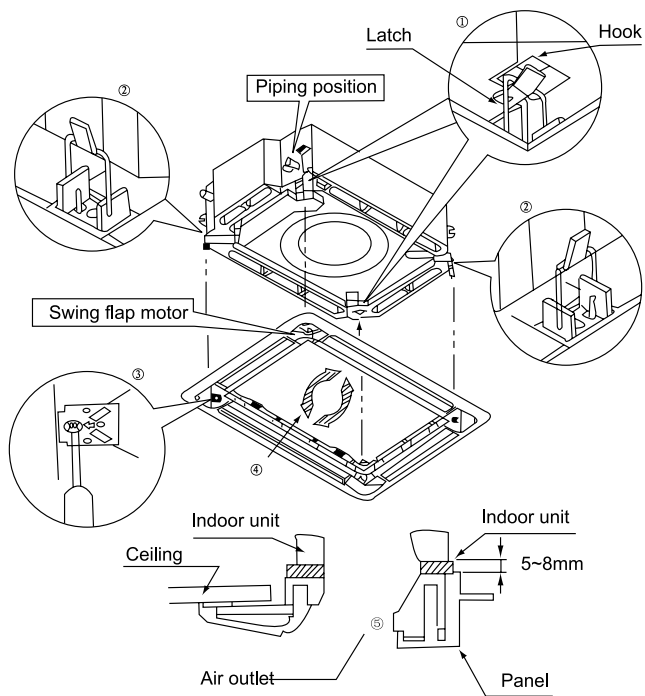

Fig.35
- (1). Place the panel at the unit, and latch the hooks beside and opposite the swing flap motor.
- (2). Latch other two hooks.
- (3). Tighten four hexagonal screws under the latches about 0.6in.
- (4). Adjust the panel along the direction indicated by the arrow as shown in Fig. 35.
- (5). Tighten the screws until the thickness of the sealing material between the panel and the indoor unit reduces to .19-.31in.